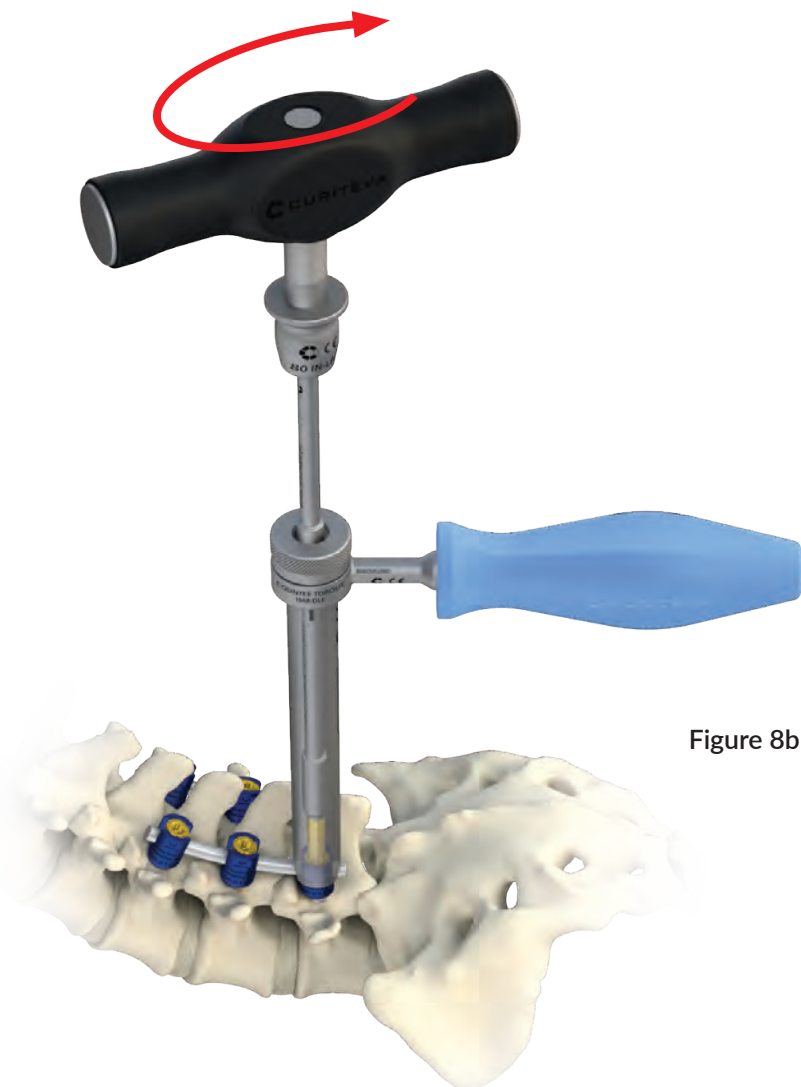

Figure 8b
- Insert the Final Locking Set Screw Driver through the Pedicle Screw Sleeve to engage the hexalobe feature of the Set Screw. **(Figure 8b)**